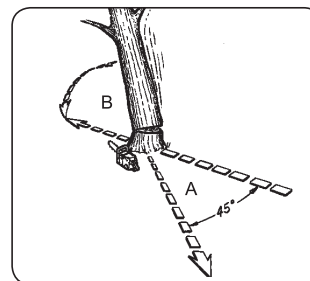

Fig. 10A
**! WARNING:** A retreat path (A) should be planned and cleared as necessary before cuts are started. The retreat path should extend back and diagonally to the rear of the expected line of fall, as illustrated in (Fig. 10A).
**NOTE.** Direction of fall (B) is controlled by the notching cut. Before any cuts are made, consider the location of larger branches and natural lean of the tree to determine the way the tree will fall.